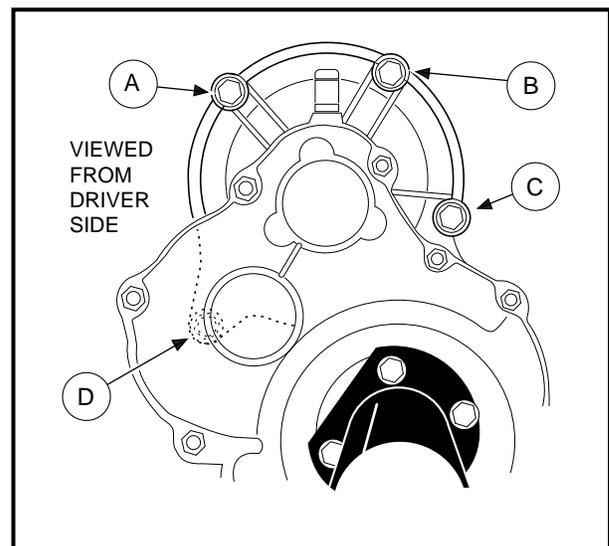

Figure 15-18 Motor Mount
4. Finger tighten the four screws, moving from screw (C) to screws (A, B, and D) until the motor is seated. Raise one rear wheel off the floor (making sure the other rear wheel remains immobilized on the floor) and rotate the axle to make sure the motor is not binding on the transaxle input shaft (**Figure 15-18, Page 15-11**).
5. Using a torque wrench, tighten the lower 1/4 in. screw (C). Now tighten the screw (A) across from the first screw, then tighten the center screw (B) at the top. Tighten these screws to 65 in.lb (7.3 N-m). Tighten the screw (D) to 155 in.lb (17.5 N-m) (**Figure 15-18, Page 15-11**).